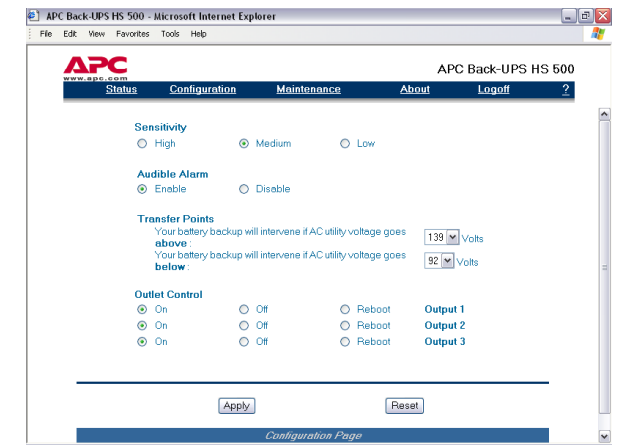

Figure 16. Configuration Page Screen
In situations where the Back-UPS or connected equipment appears too sensitive to input voltage, it may be necessary to adjust the transfer voltage. This is a simple task requiring use of the front panel Power switch, or it can also be accomplished using the **Configuration Page Screen** (Figure 16) in the supplied software (see *Install and Setup Software*). To adjust the transfer voltage, proceed as follows:
15. Using the **Configuration Page Screen** (Figure 16), you can adjust the **Sensitivity** of the Back-UPS. By adjusting the Sensitivity, the Back-UPS will allow the unit to switch to battery power depending on the quality of the AC utility power being supplied to the unit. Use of the Sensitivity settings are for the following conditions: